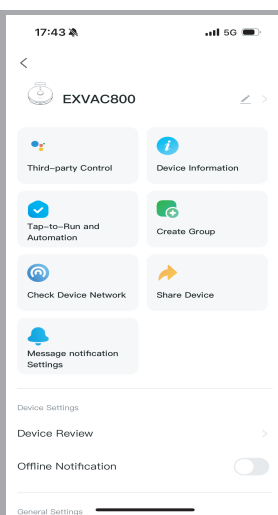

Fig. 19
F). Click the icon  on the main interface and enter Fig.19, users can perform more about EXVAC800, such as connecting to the third party (Google assistant, Alexa etc), share device or update the firmware, etc.